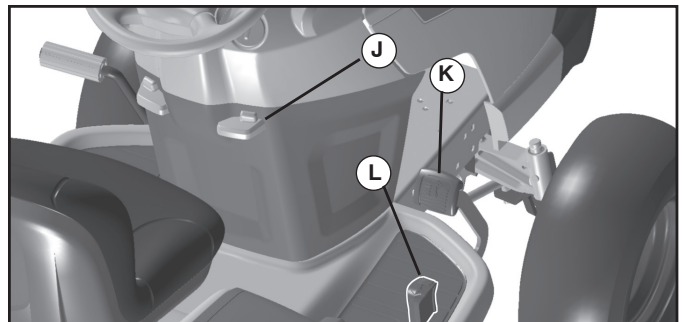

FIG. 6
### TO MOVE FORWARD AND BACKWARD (See Fig. 6)
- Slowly depress forward (K) or reverse (L) drive pedal to begin movement. Ground speed increases the further down the pedal is depressed.
### TO USE CRUISE CONTROL (J) (See Fig. 6)